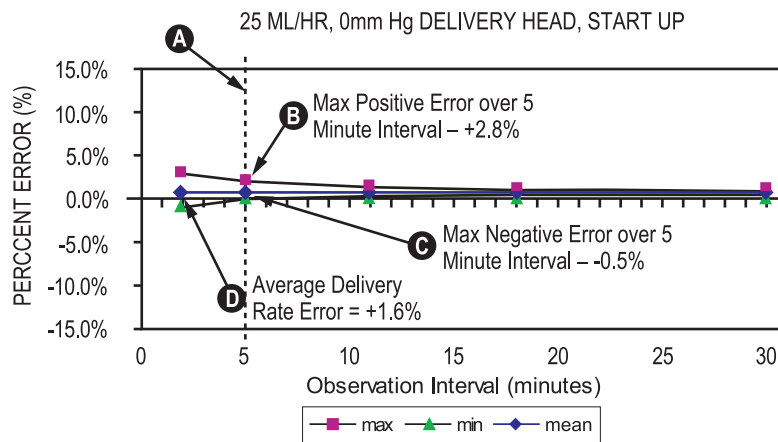

Figure 173: Sample Trumpet Curve
On the trumpet curve graph sample shown in Figure 173, find the 5 minute interval (A) at the horizontal axis and read the corresponding points (B) and (C) on the vertical axis. The values are approximately +2.8% and -0.5%.